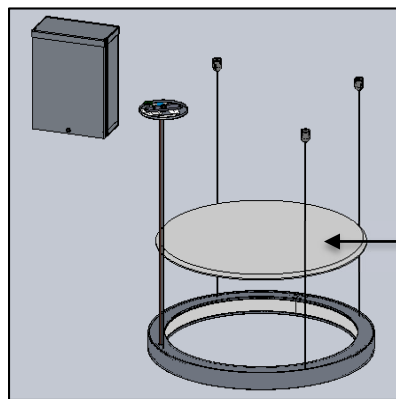

FIG. 31 - RV1 (INNER ILLUMINATION) (WITH ACOUSTIC PANEL SHOWN)
16. If there is option for Acoustic Panel, place the Acoustic part above the fixture body such that it is eventually balanced and assembly concentrically to the axis of fixture body as shown in FIG. 31 and 32 below for both RV1 and RV2 Series.